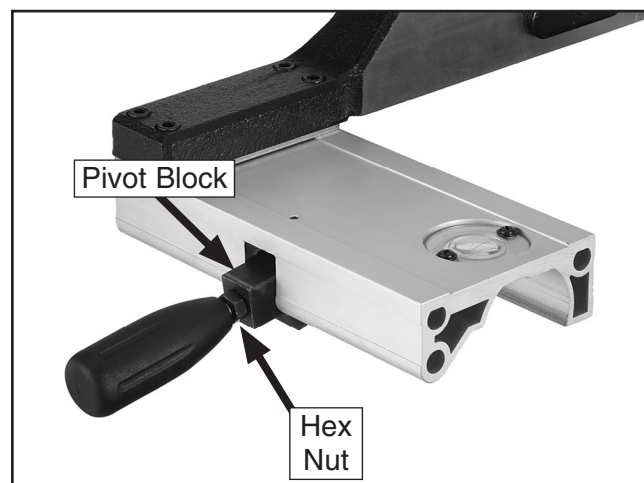

Figure 23. Handle installed on fence assembly.
3. Install an M8-1.25 hex nut on the fence handle, then thread the handle into the fence assembly (**Figure 23**). Tighten the hex nut against the fence pivot block to secure the handle.